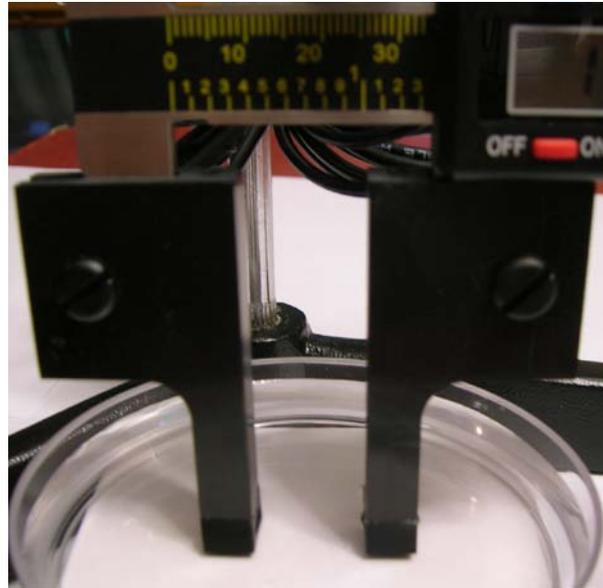

Figure 1-4. Close up of Sound Heads in water.
- Place the Sound Heads in the water tray as shown in figure 1-4. The tips of the Sound Heads should be 8 to 10 mm below the water line.